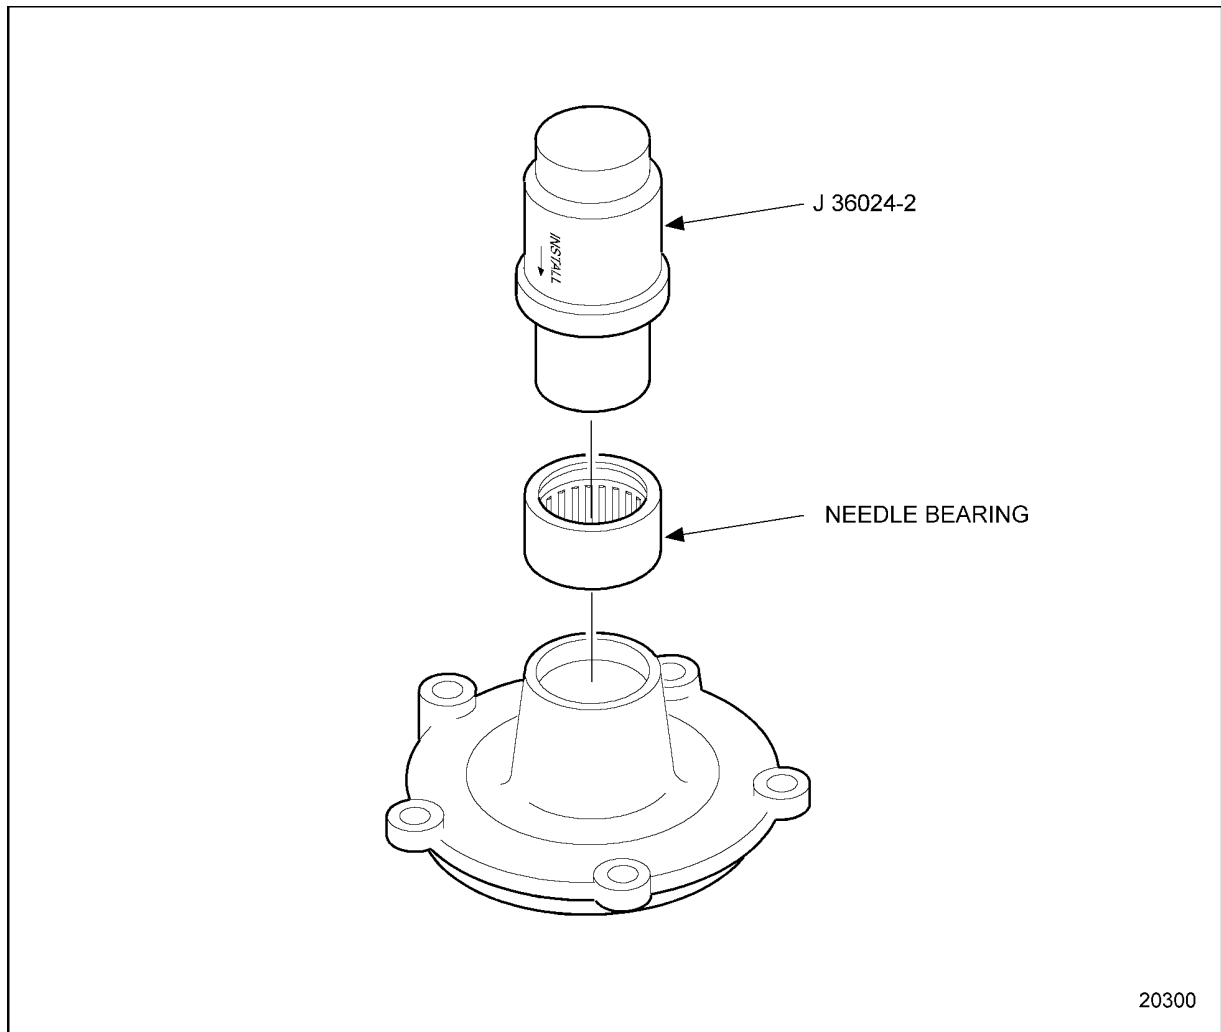

Figure 1-401 Needle Bearing Installation
4. Install the needle bearing to the accessory drive housing using tool J 36024-2 part of J 36024-C and a press. See Figure 1-401.